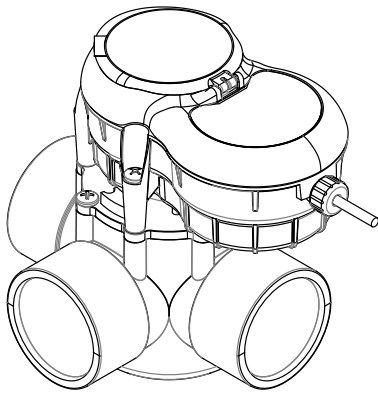

Figure 6. Valve positioned left side of heater
2. With the IntelliValve valve actuator attached to the valve, rotate the actuator so the 0 or 24 position aligns with the bypass port of the 3-way valve. Ensure the screw holes in the valve body align with the screws of the actuator, (depending on heater location). See Figures 6 and 7.
3. Mount the IntelliValve valve actuator onto the valve assembly and secure it with the four 2¼ inch mounting screws provided. See Figure 6 and Figure 7. Note: DO NOT over tighten the mounting screws.